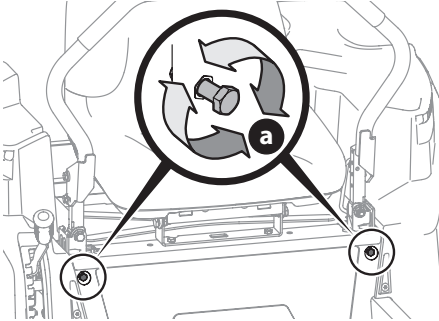

Figure 37
2. Locate the lapbar drive control lever stop adjustment bolts (a) on the front of the seat frame (Figure 37).